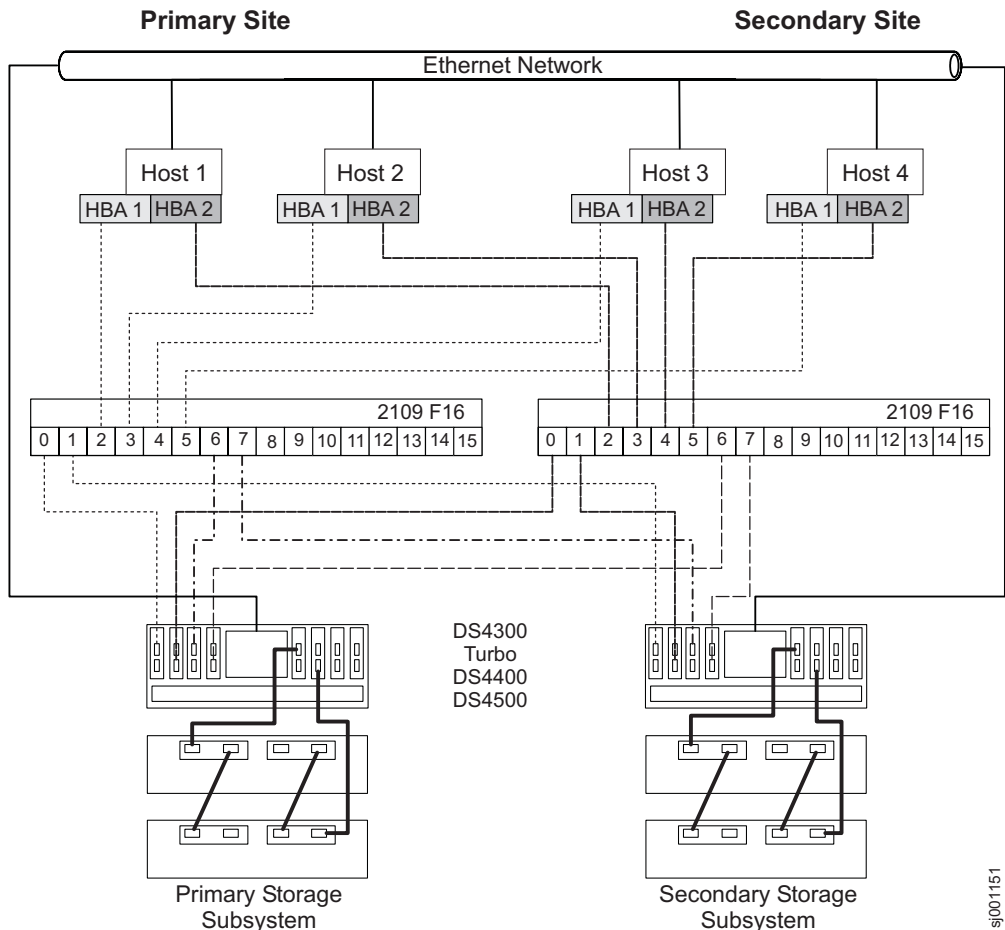

Figure 42. Intra-site configuration
Figure 42 on page 124 shows the Intra-site configuration after installation is complete.
Important: The fibre-channel switches in Figure 42 contain 16 ports each, which leaves many unused ports per switch. If you are performing switch zoning using the fibre-channel host port number, instead of the WWNN of the SAN fabric logged-in ports, do not include fibre-channel switch ports with no fibre-channel connections in the zone definition. If you include these unused ports in your zones, unauthorized access to the SAN might result.
Note: Figure 42 illustrates that there is no relationship between Zone A and Zone B in Switch 2 and Zone 1 and Zone 2 in Switch 1.
- Refer to Figure 42 on page 124 as you complete the steps in this procedure.